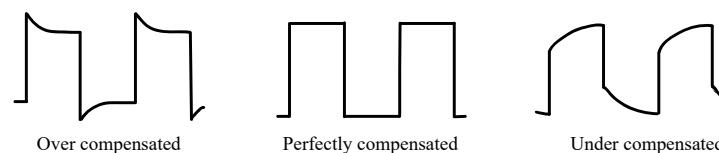

Figure 4.8 Probe Compensation
2. Check the displayed waveforms and compare them with the waveforms shown in *Figure 4.8*.